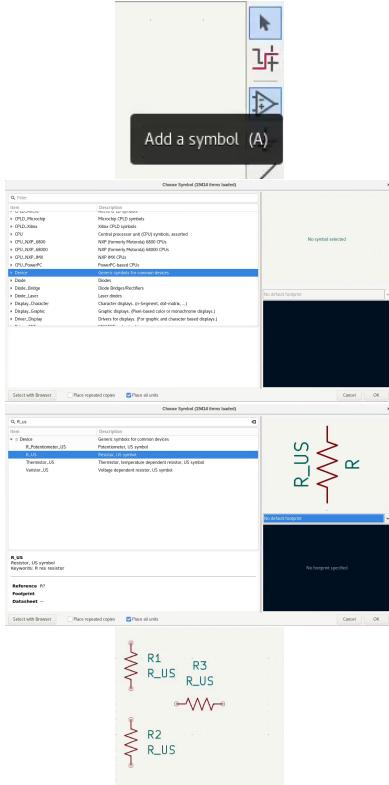

Figure 39: Order of placing a Resistor symbol from the symbol browser
4. Start building your schematic by adding a resistor from the device library. This is done by pressing the "Add a symbol" button on the right toolbar. You can see this walked through in Figure 39. When you select the component that you want to place, you can also select which footprint you want to associate with the symbol. You can start placing components with no footprints attached, since we will guide you through footprint selection later.